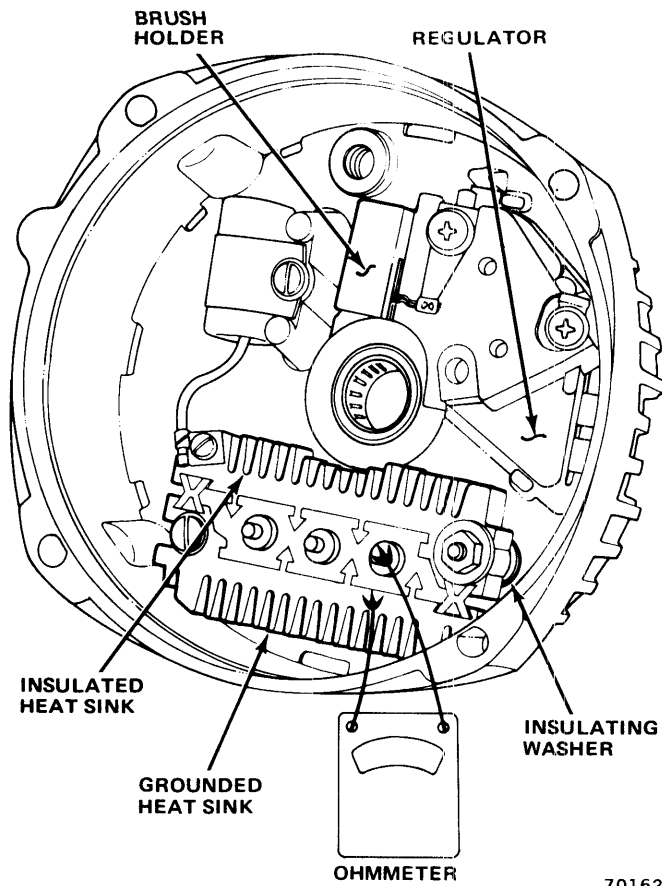

Fig. 3-33 Rectifier Bridge Check
- (1) Connect ohmmeter to grounded heat sink and one of three terminal tabs (fig. 3-33). Note reading.
- (2) Reverse lead connections to the grounded heat sink and same terminal tab. Note reading.
- (3) Replace rectifier bridge if both readings are the same.
- (1) Remove capacitor lead attaching screw.
- (2) Disconnect capacitor lead from rectifier bridge.
- (3) Remove rectifier bridge attaching screws and battery terminal screw.
- (4) Remove rectifier bridge. Note insulator between insulated heat sink and end frame (fig. 3-33).